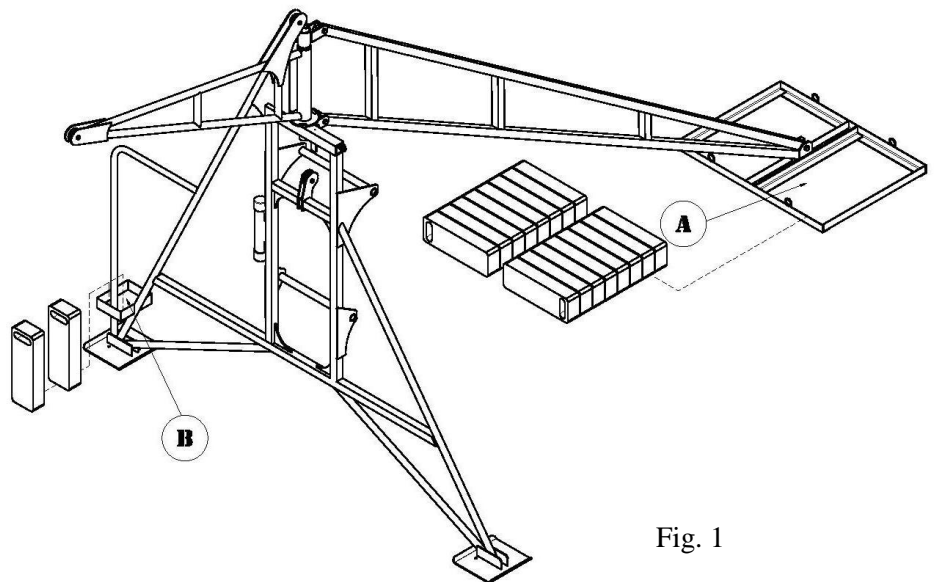

Fig. 1
2. Make sure to always have enough counterweights on the rear weight base. After placing counterweights, secure them to the hoist frame using a wire cable or chain to prevent them from being removed or falling off the base in the event of sudden impact load. The 532 000 hoist requires 880 lbs of counterweight (16 X #597000) on the rear leg counterweight base (A) and 110 lbs of counterweight (2 X #597000) on the front right leg (B) (see fig. 1) Counterweights are sold separately.